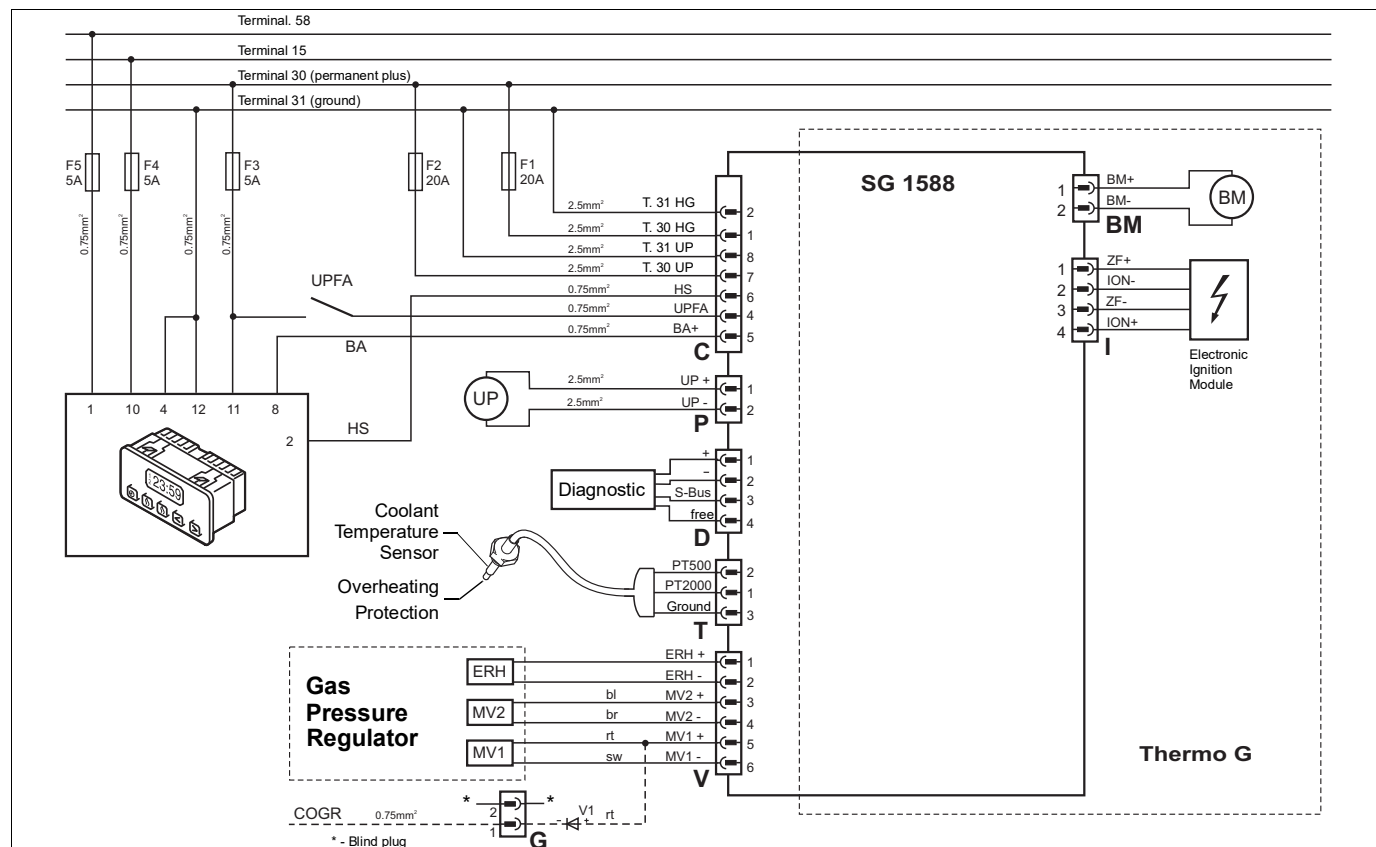

Figure 9: System wiring diagram for water heaters Thermo G with timer, for legend see page 20
- verify all system components are properly connected according to the system wiring diagram in figure 9 or 10, all plugs are secure, all fuses present and undamaged